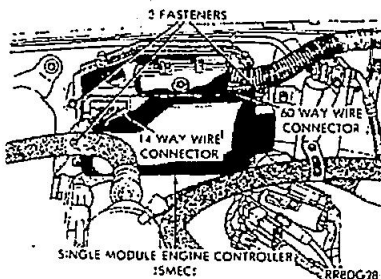

Fig 2
2. Remove 3 module mounting screws (Fig 2)
3. Remove 14 and 60 way wiring connectors from the SMEC and remove SMEC (Fig 2).